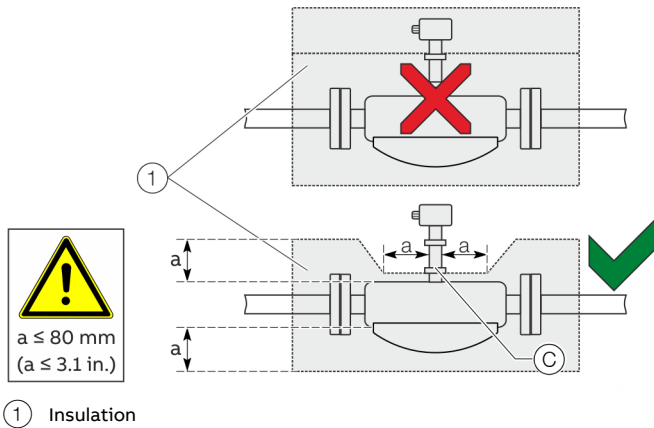

Figure 7: Installation at $T_{\text{medium}} -50^{\circ}\text{ to }205^{\circ}\text{ C }(-58\text{ to }400^{\circ}\text{ F})$
The sensor may only be insulated in conjunction with the option TE1 'Extended tower length for sensor insulation' or TE2 'Extended tower length – insulation capacity with dual gasket,' as shown in Figure 7.
When operating the sensor in conjunction with heat tracing, the temperature at point ③ (Figure 7) $100^{\circ}\text{ C } (212^{\circ}\text{ F})$ may not be exceeded at any time!